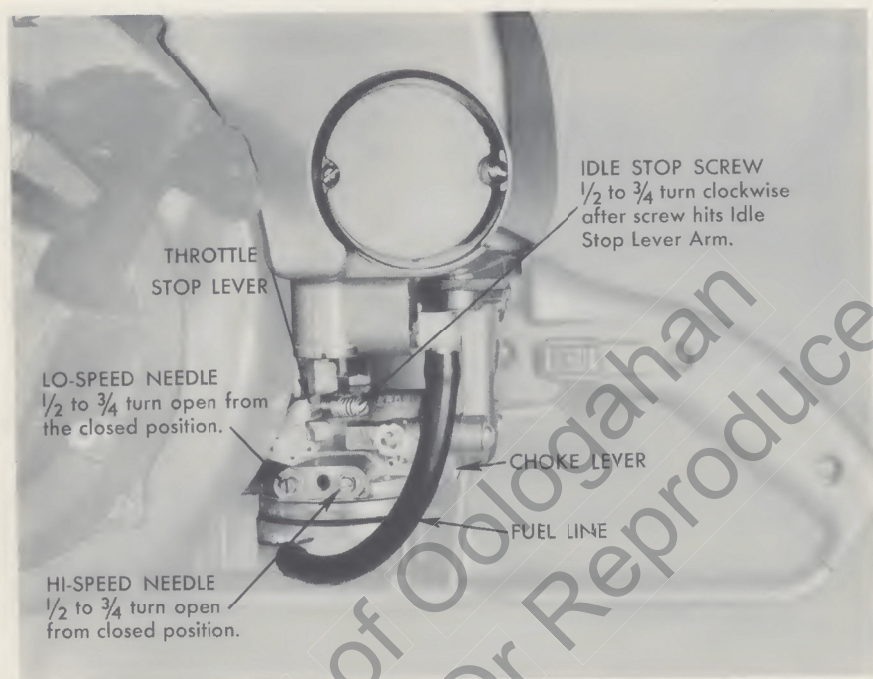

Figure 14—Carburetor Controls
(1) The Zip chain saw fuel system features a Brown CP or Tillotson HL type fuel pump, all-angle-operation carburetor. The carburetor needle adjustment settings are the same for both types of carburetor. (See figure 14.)
(2) CARBURETOR ADJUSTMENTS (See figure 14)